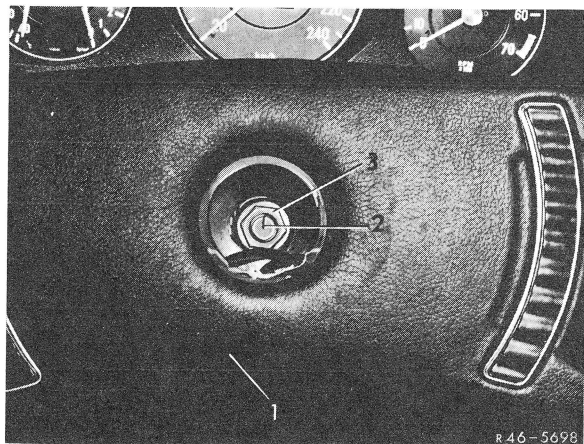

Fig. 4
3 Turn steering spindle (2) in such a manner that the marking line (2a) is pointing accurately upward (Fig. 4 and 5).